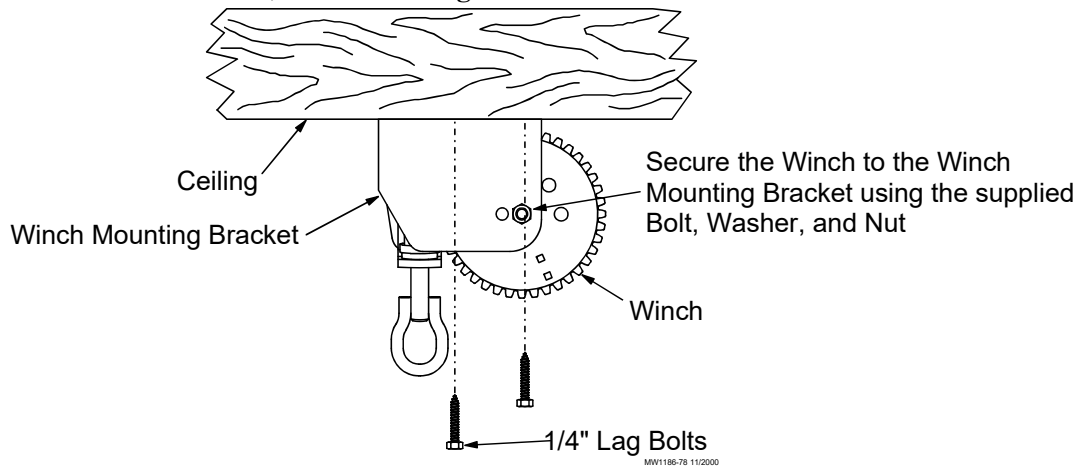

Figure 11. Winch
4. Mount the split drum winch as shown in **Figure 11**. Mount the winch to the ceiling or on a 2 x 8" [50 x 200 mm] board spanning at least two rafters for support. Use at least (4) 1/4" lag screws (not supplied) to secure winch to support.
5. Bolt the winch to the bracket, as shown in **Figure 11**.